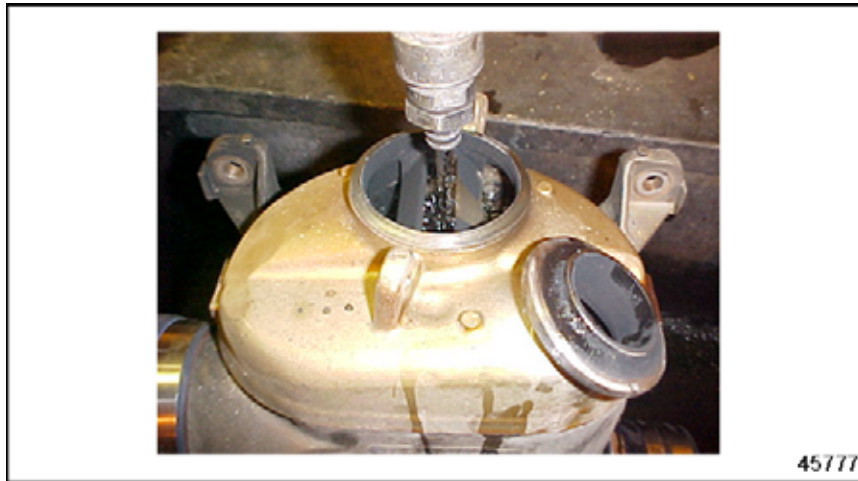

Figure 10-4 Filling the EGR Cooler with Tap Water
2. Fill the exhaust side of the cooler with hot tap water. Allow the water to overflow until the loose carbon has floated away allowing for a clear viewing of any bubbles. See Figure 10-4.